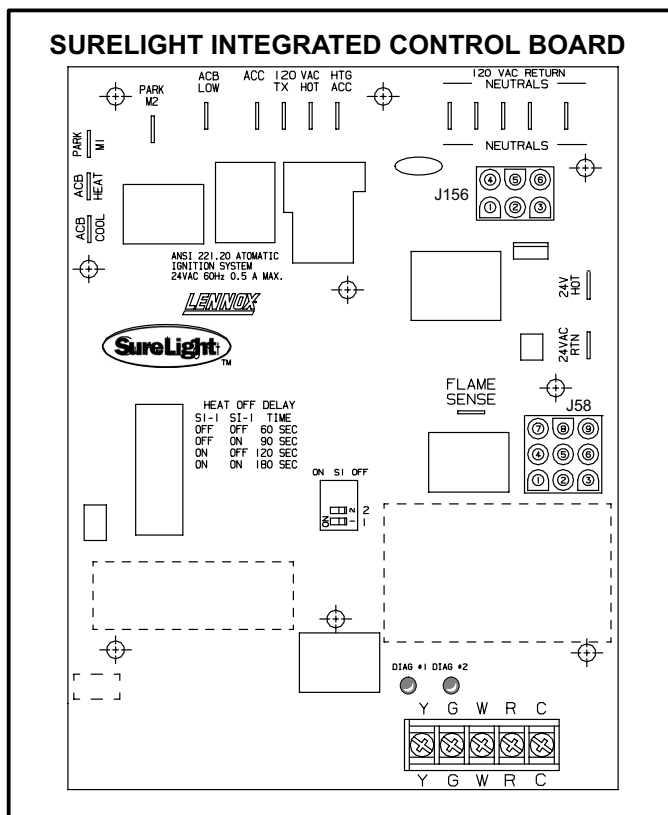

FIGURE 6
The Lennox SureLight ignition system consists of ignition control board (figure 6 with control terminal designations in table 1), sensor (figure 10) and ignitor (figure 12). The ignition control and ignitor work in combination to ensure furnace ignition and ignitor durability. The ignition control, controls all major furnace operations. The ignition control also features two LED lights for troubleshooting (DIAG 1 green and DIAG 2 green) and two accessory terminals rated at (1) one amp. Tables 2 and 3 show jack plug terminal designations. See table 8 for troubleshooting diagnostic codes. Units equipped with the SureLight system can be used with either electronic or electro-mechanical thermostats without modification. The SureLight ignitor is made of durable silicon-nitride. Ignitor longevity is also enhanced by voltage ramping by the control board. The ignition control finds the lowest ignitor temperature which will successfully light the burner, thus increasing the life of the ignitor. Each time power is applied to the furnace, the ignition control performs a selfcheck including energizing the combustion air inducer for a period of 1 second.